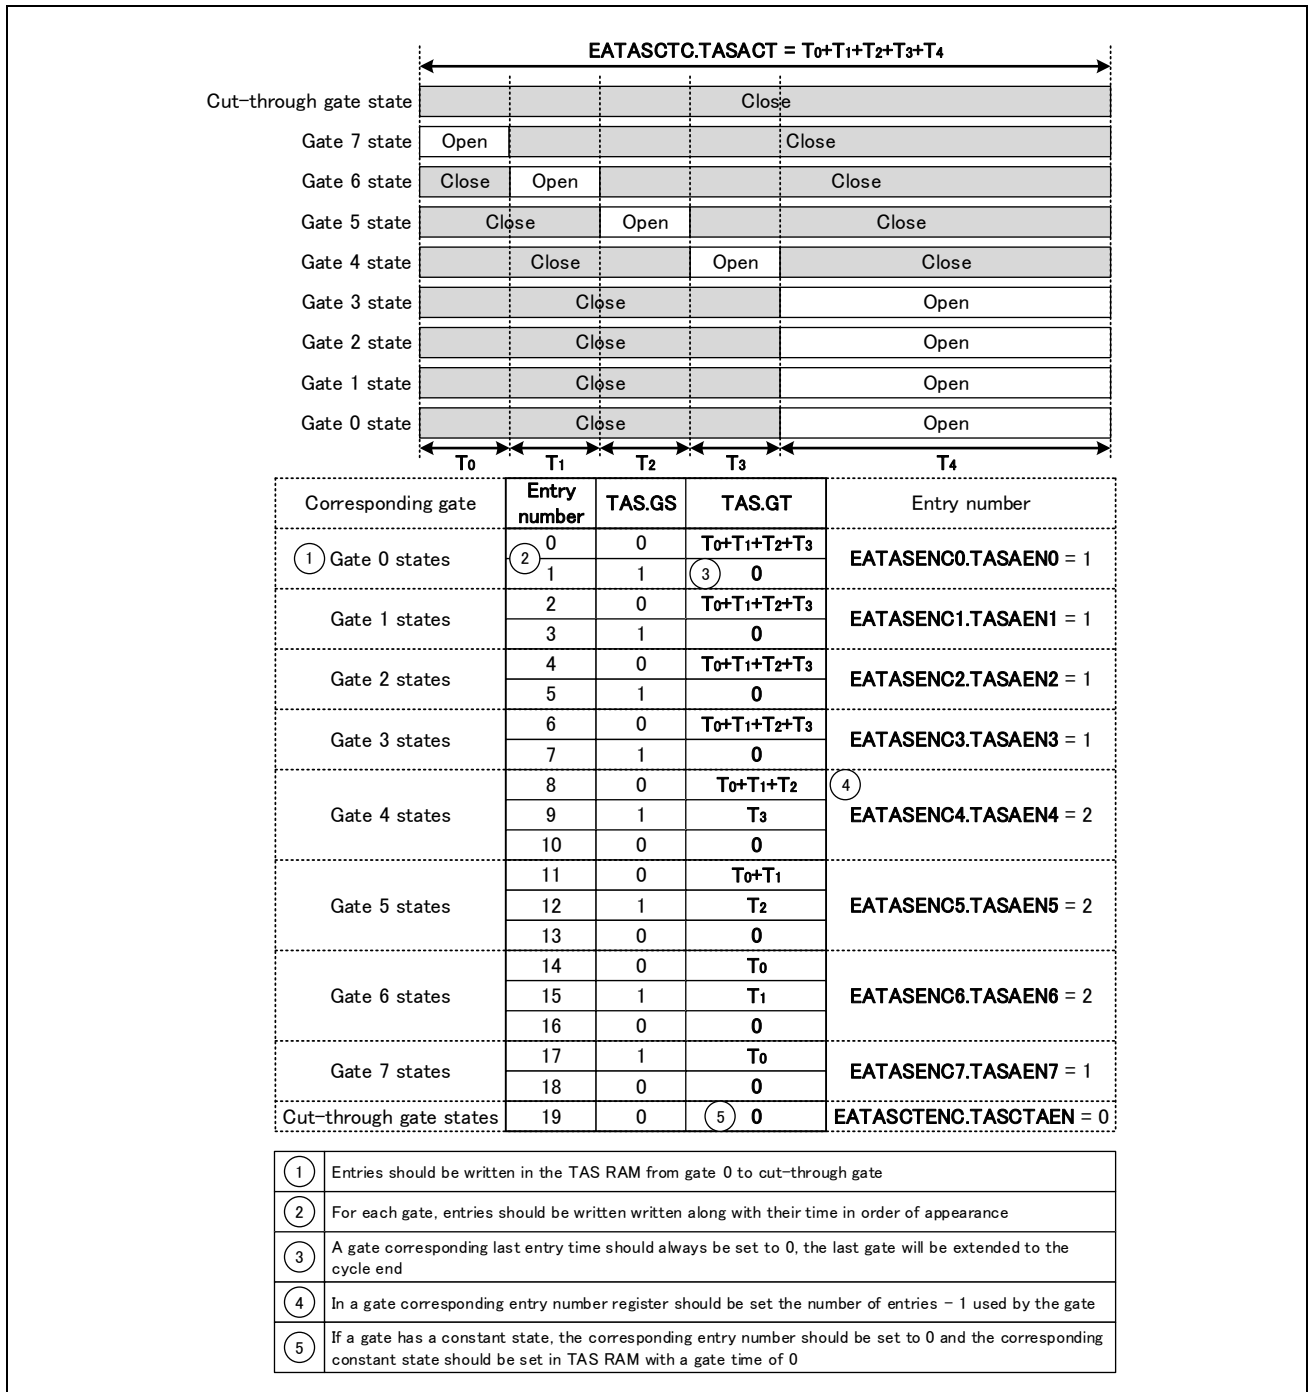

Fig 5.10: Schedule example
Fig 5.10 describes how to convert a schedule into a set of TAS entries and how to set the schedule corresponding register through an example.
- SW: Each gate time (T_0, T_1, T_2, T_3, T_4 in Fig 5.10) should be greater or equal to $50\text{ns} + EATASHCC.TASJ$.
(5) Gate open time calculation